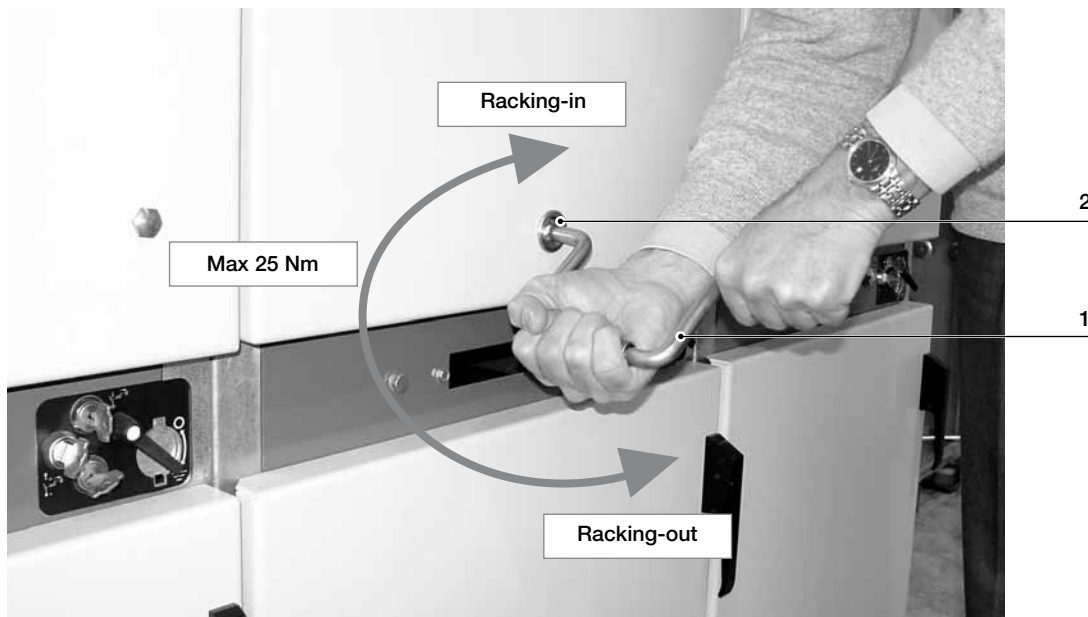

Fig. 9
For racking-in/racking-out of the switchgear, fully insert the lever (1) (fig. 9) in the appropriate seat (2) and work it clockwise for racking-in, and anti-clockwise for racking-out, until the limit switch positions are reached.
- Insert the manual racking-in lever (1) in the special coupling (2) Fig. 9, and take the motorized truck to about half its run between the isolated for test and the connected position. The torque needed to carry out truck handling is $\leq 25\text{ Nm}$. In the case of accidental inversion of the truck motor power supply polarity, this operation allows a possible error in direction to be dealt with without any damage. Verification checks:
- Remove the manual lever (1) from the coupling (2) Fig. 9